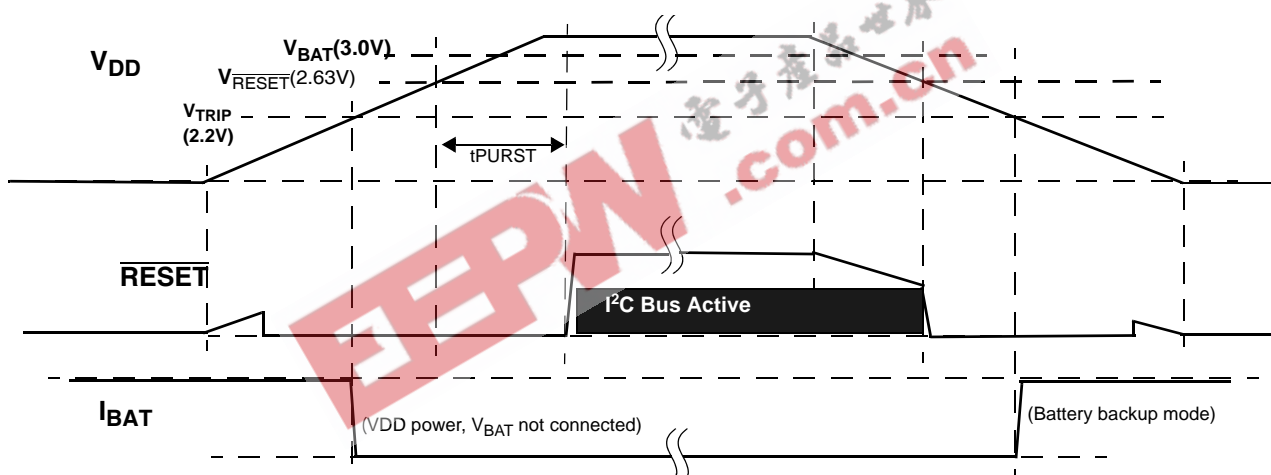

FIGURE 29. EXAMPLE RESET OPERATION IN MODE A OR C
- Mode A - In this mode selection bits indicate a low V_{DD} switchover combined with I²C operation in battery backup mode. In actuality the V_{DD} will go below V_{RESET} before switching to battery backup, which will disable I²C ANYTIME the device goes into battery backup mode. Regardless of the battery voltage, the I²C will work down to the V_{RESET} voltage (See Figure 29).
- Mode C - In this mode the selection bits indicate a low V_{DD} switchover combined with no communications in battery backup. Operation is actually identical to Mode A with I²C communications down to $V_{\text{DD}} = V_{\text{RESET}}$, then no communications (see Figure 29).